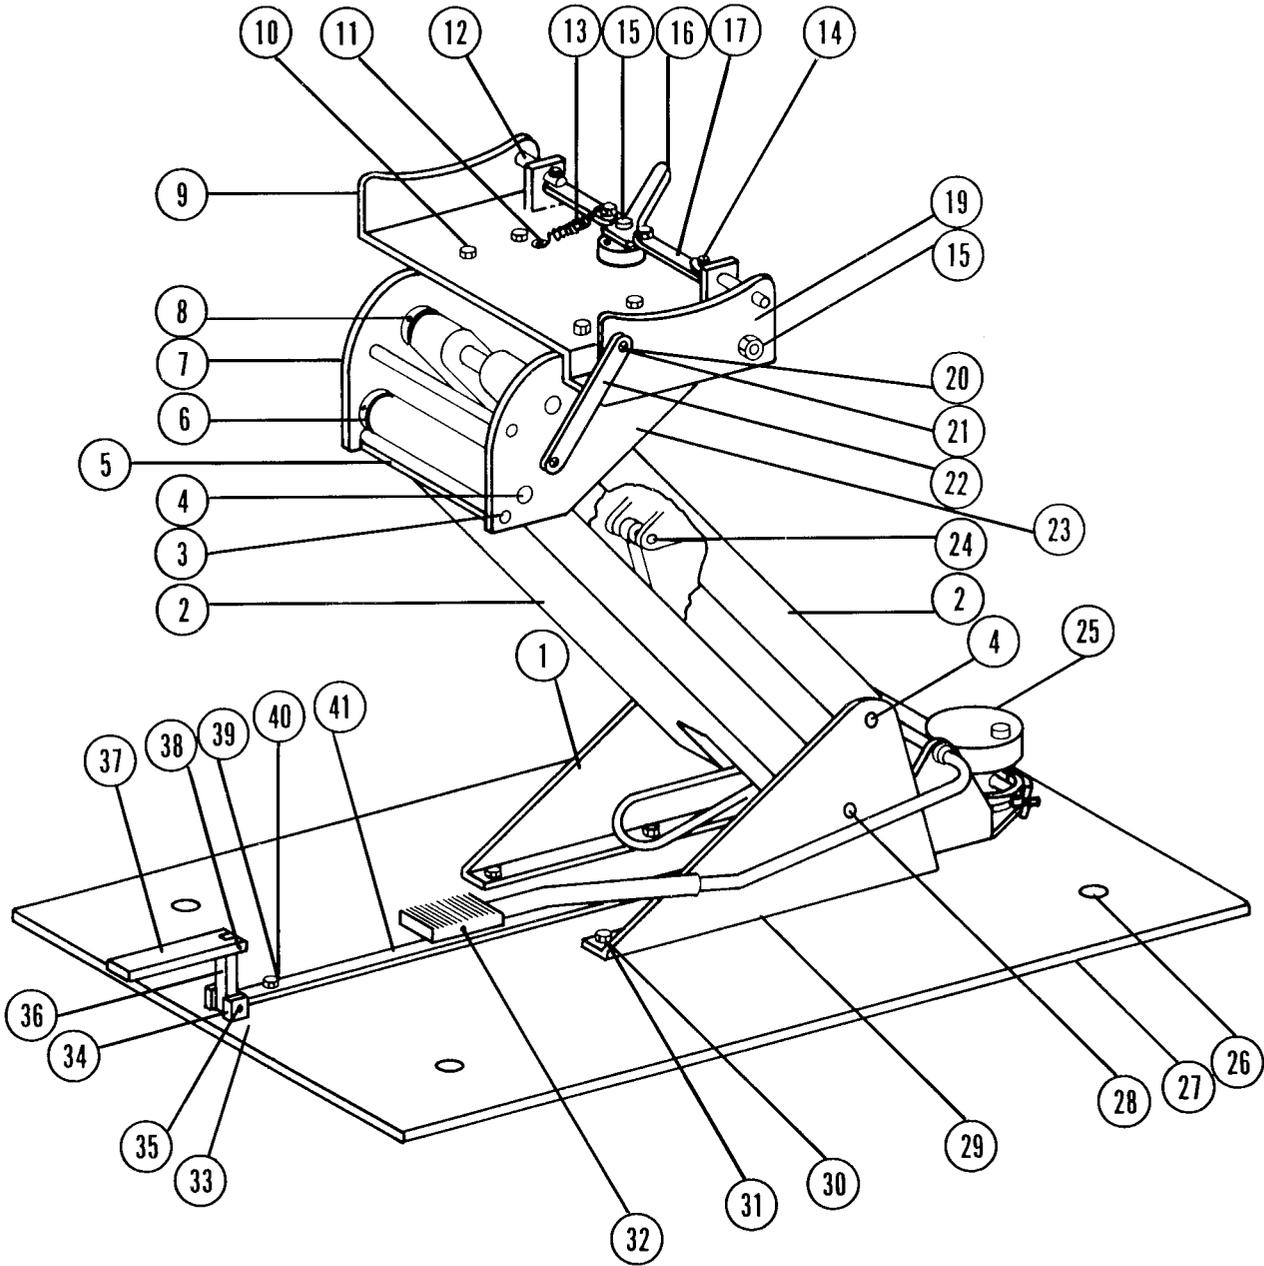

Figure 7. Base Assembly
**MODEL CM-185 FIELD CHAIR BASE (Refer to Figure 7)**